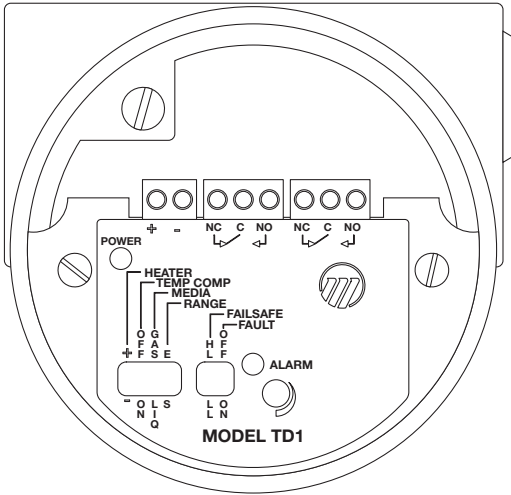
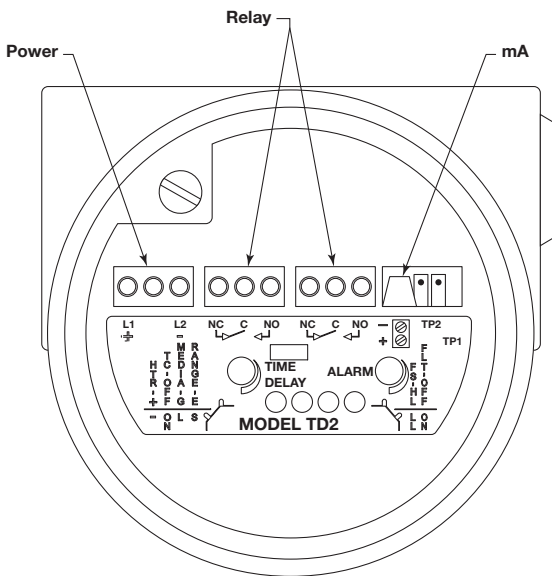

Figure 6
Figure 7
4. Connect power leads to proper terminals. Refer to Figure 6 for TD1 or Figure 7 for TD2 electronics. Note that the TD1 is only available with 24 VDC input power. The TD2 is available for AC power (100 to 260 VAC) or as a DC power (19.2 to 28.8 VDC).
5. Perform Relay Connections (refer to Figure 6 for TD1 or Figure 7 for TD2 electronics).
Wiring of the mA output is shown in Figure 7 on page 6. Wiring should be 16 to 26 AWG.